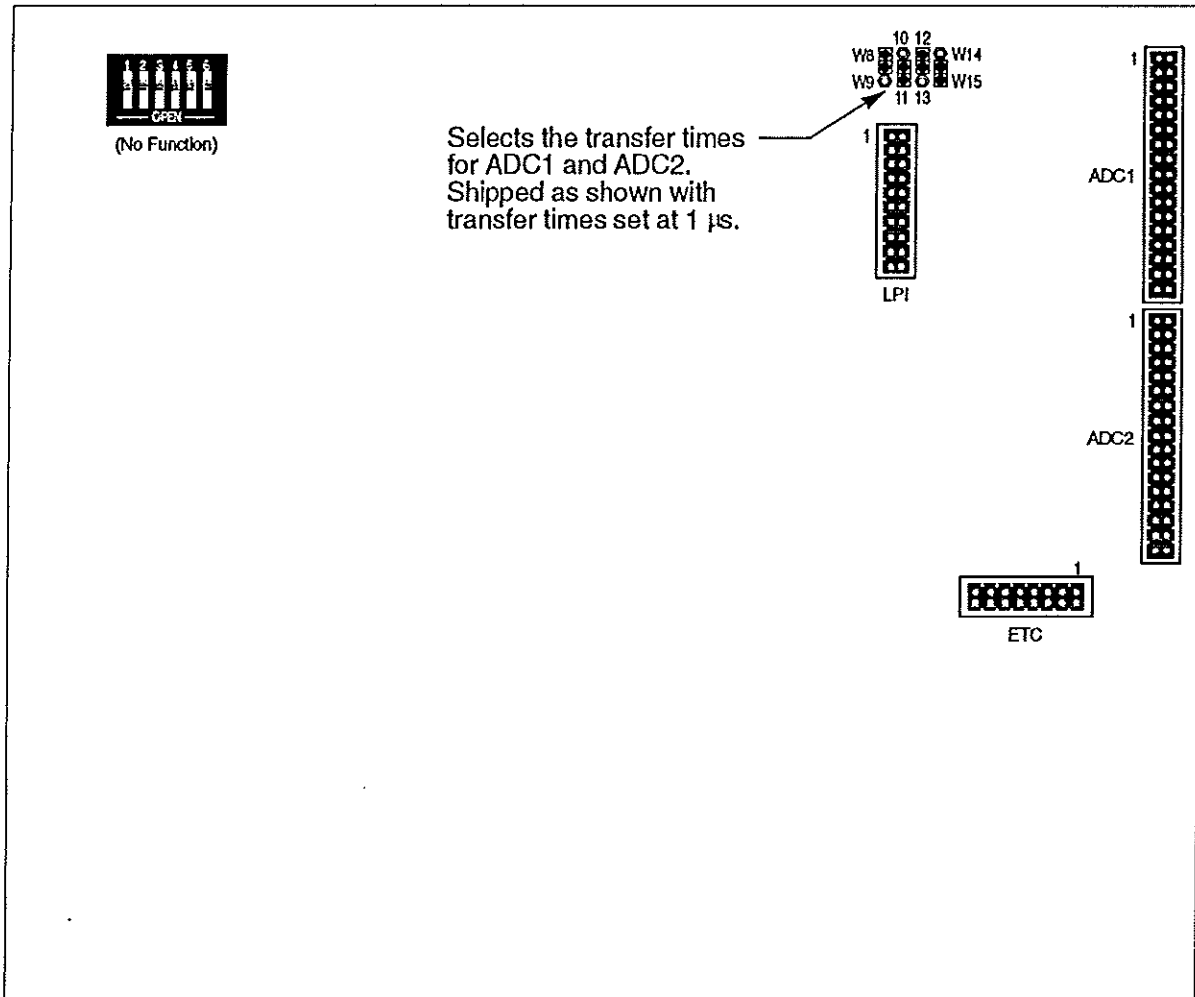

Figure 2.3 Internal Controls
1. When the AIM is shipped from the factory, the transfer times for both ADCs are set at 1 μ s. This will allow a maximum cable length of 4.5 m (15 ft). If these are the desired settings, go to step two. If you'd like to change the transfer time settings, remove the right side-panel from the 556. Referring to Figures 2.3 and 3.1, change the appropriate jumpers on the board.